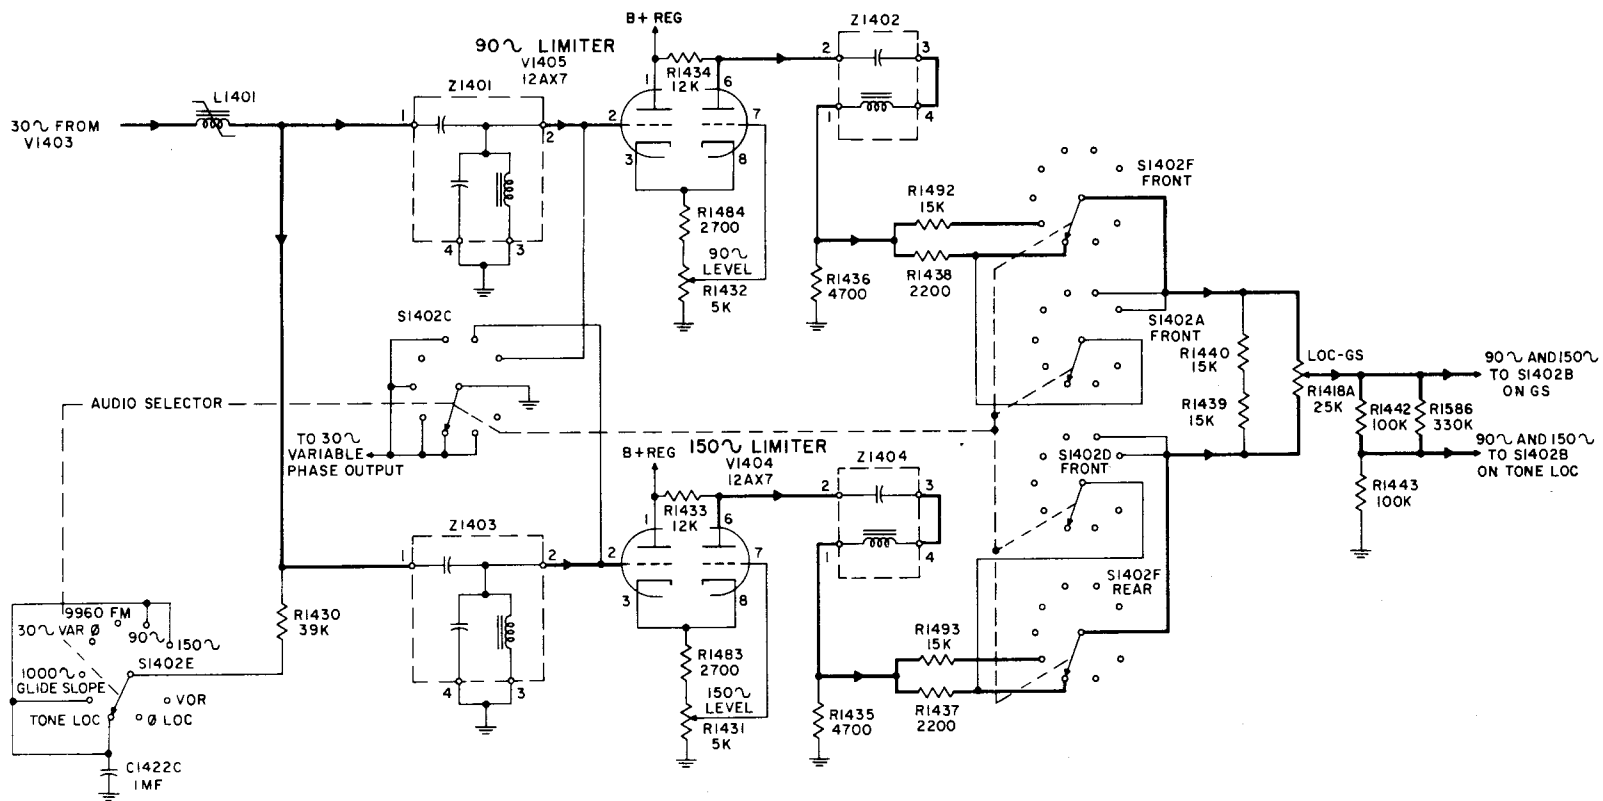

Figure 4-23. 90 CPS and 150 CPS Circuits, Simplified Schematic
(See figure 4-23.)
b. ϕ LOC. 9960 cps frequency modulated at 30 cps from V1407A is fed to S1402A rear and 30 cps reversible phase from its phase shifting network is fed to S1402B. Switch section S1402C (figure 4-23) grounds the 30 cps variable phase signal and S1402E disables the 90 cps and 150 cps circuit.